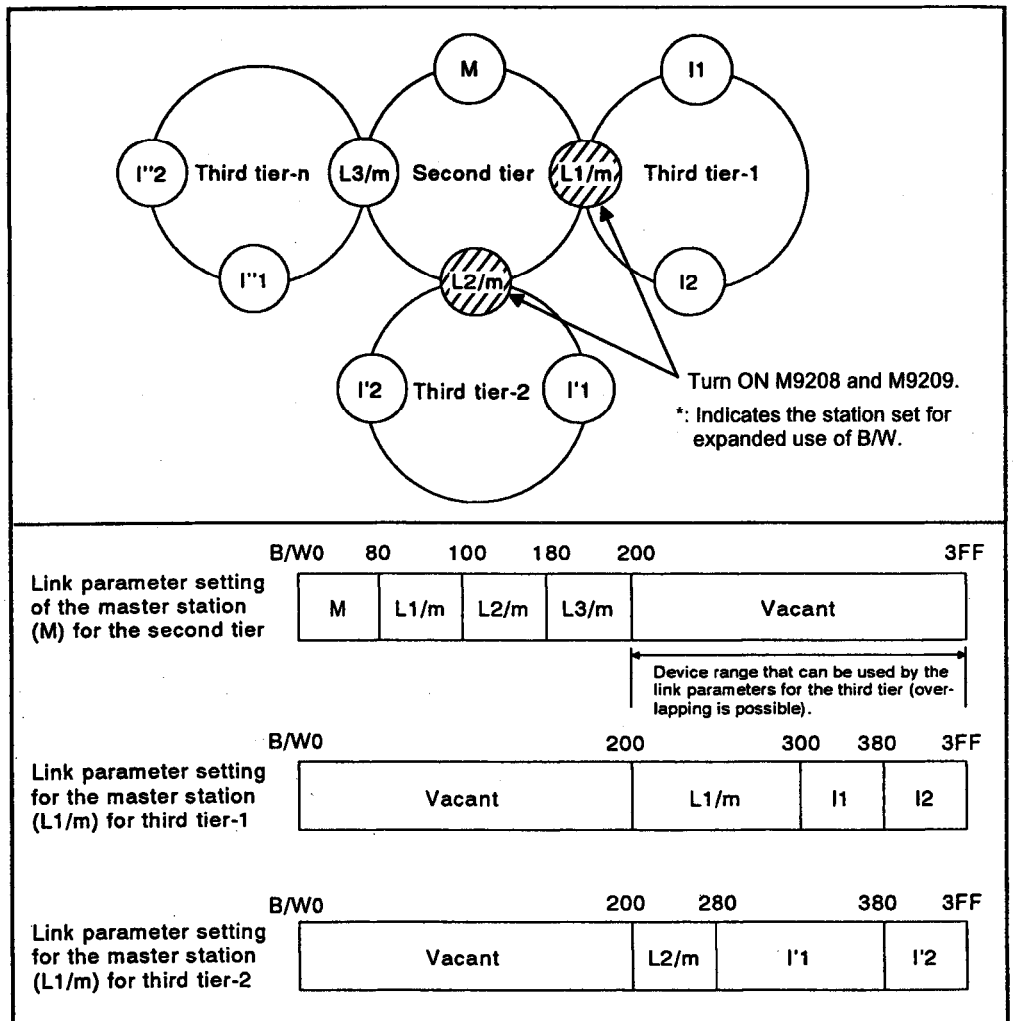

Fig. 5.8 Expanded Link Relay (B) and Link Register (W) Ranges
When there are two or more master stations in the second tier as illustrated in Fig. 5.8, the link relay and link register range can be expanded. In this case, the communication range that can be used is different from the communication range that can be used without expanding the range.
The expanded link relay (B) and link register (W) device range that can be used for communication in the system configuration from Fig. 5.8 is summarized in Table 5.5.